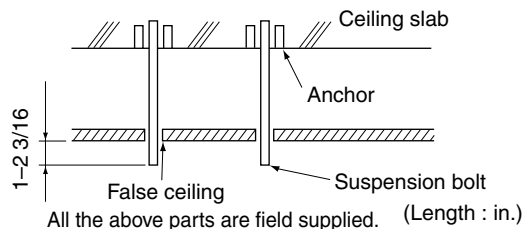

Fig. 9
(4) Attach the suspension bolts. (Use suspension bolts which are W3/8 or M8-M10 in size.)
- Adjust the distance of the suspension bolts from the ceiling in advance. (Refer to Fig. 9)